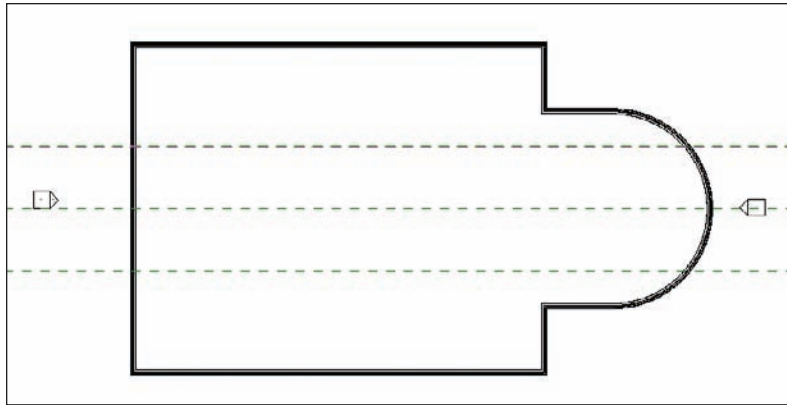

FIGURE 2.5 Reference planes are used here to aid in the placement of walls.
10. With the Ref Plane command still running, hover over the middle line again. This time, offset the alignment line down. Your plan should now look like Figure 2.5.